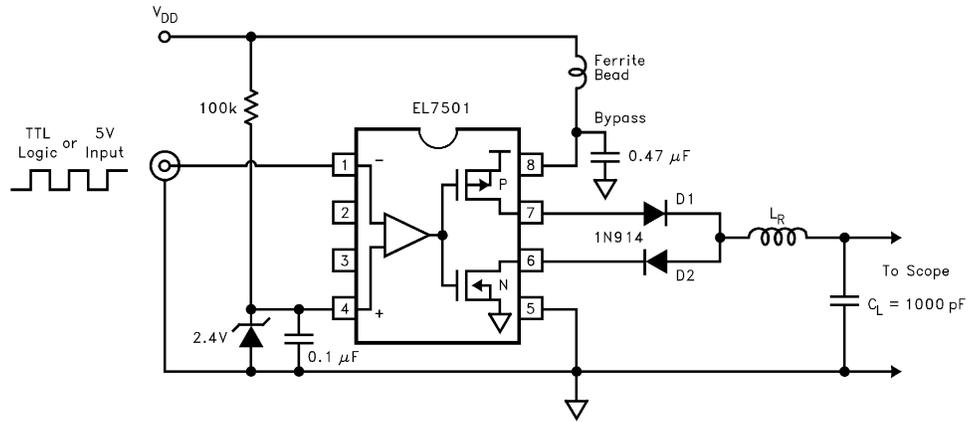

FIGURE 9. RESONANT GATE DRIVER
Resonant gate driver can be used to boost the gate voltage swing while increasing driver efficiency. In Figure 9, an EL7501 is configured with (2) external “ring” diodes and resonating inductor LR. For tutorial purposes, the power MOSFET load was replaced by a 1000pF capacitor (CL). The “ring” diodes are fast switching diodes capable of withstanding the 1 amp peak current, such as the 1N914. Standard de-coupling techniques are applied with 5V applied to VDD, the circuit delivers +10V to -5V output. In “5V only” systems, sufficient output swing is available so as to eliminate the need for costly “logic level” power FETs, and provides below ground swing for superior turn-off.